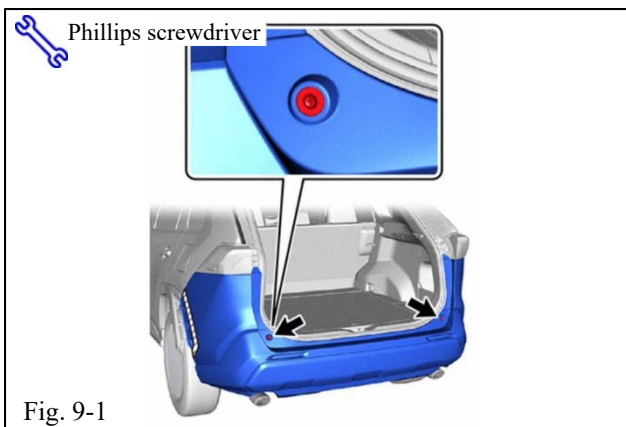

Fig. 9-1
- (a) Use a Phillips #2 screwdriver to remove the (2) rear bumper upper stoppers (Fig. 9-1).
(1) Unclip both cover plates by hand.